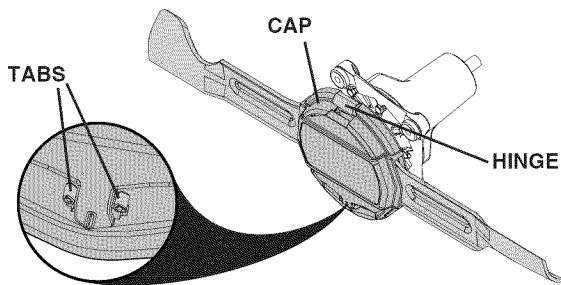

Fig. 15
## BLADE REPLACEMENT (See Figs. 15 - 20)
- Squeeze tabs inward to release cap. Remove by lifting cap from hinge and set aside. (See Fig. 15.)